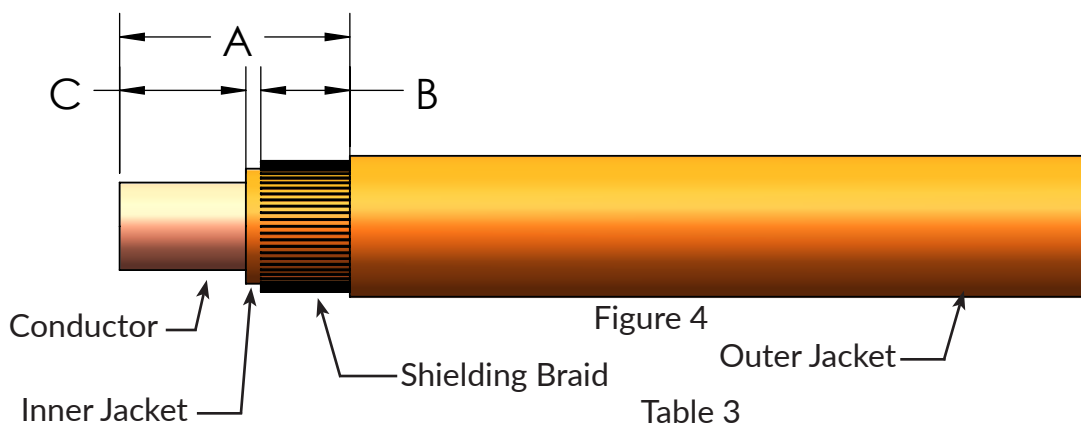

Figure 4
3) As figure 4 shown, assemble the contact into the receptacle:
3) As figure 4 shown, strip the inner jacket per table 3 dimesion “C,” the conductor should not be damaged during stripping: